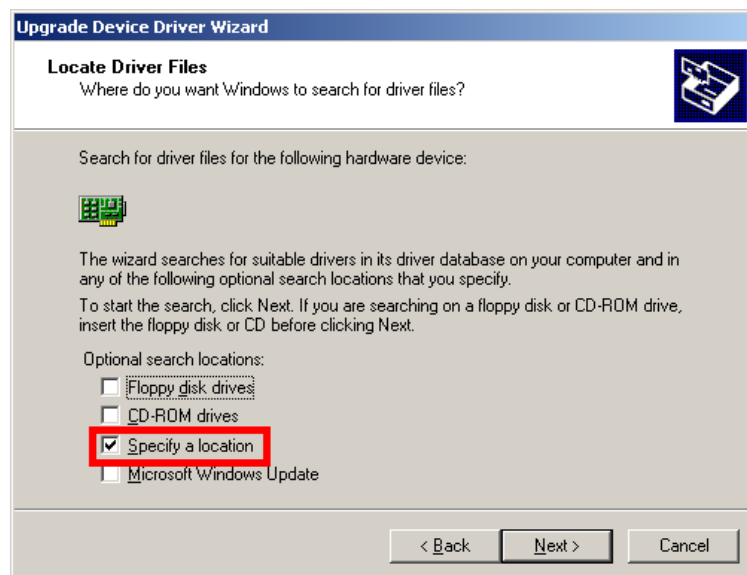

Figure 7-21: Locate Driver Files
Step 8: Select “**Specify a Location**” in the **Locate Driver Files** window (Figure 7-21).